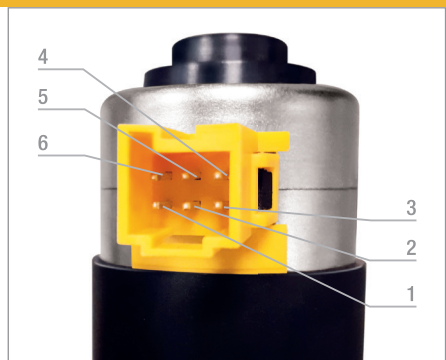

Figure 2 - Motor electrical connection
- Stepper motor _____ Male connector compatible to cable connector Stocko STO-GRID, MH 790-06-001 MH 790-06-001-118, see Figure 2